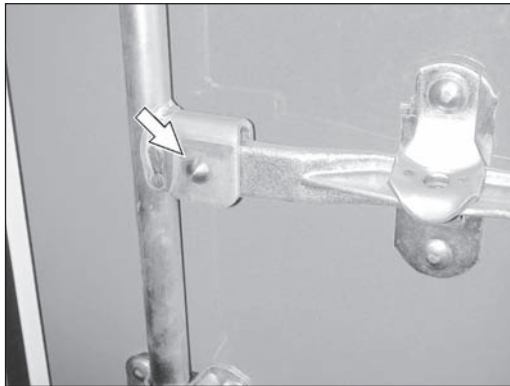

Fig. 4 - Swing Door
1. Grind or drill just enough to remove the rivet head and to avoid damaging the door. Once the head has been ground or drilled off, knock the remains of the rivet out using an appropriate sized punch. Remove the handle from the door. (See Figure 4.)